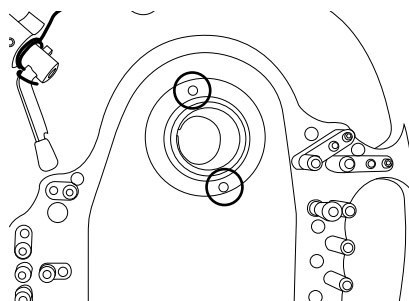

Figure 12
- Remove the viewfinder lock ring located inside the housing's back. If you feel resistance insert a small allen key into the holes on the ring to get a better grip; (fig. 12)